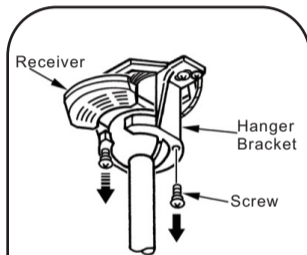

Fig.17
Step 1. Remove 1 of the 2 screws from the bottom of the hanger bracket and loosen the other one half a turn from the screw head. (Fig. 17)